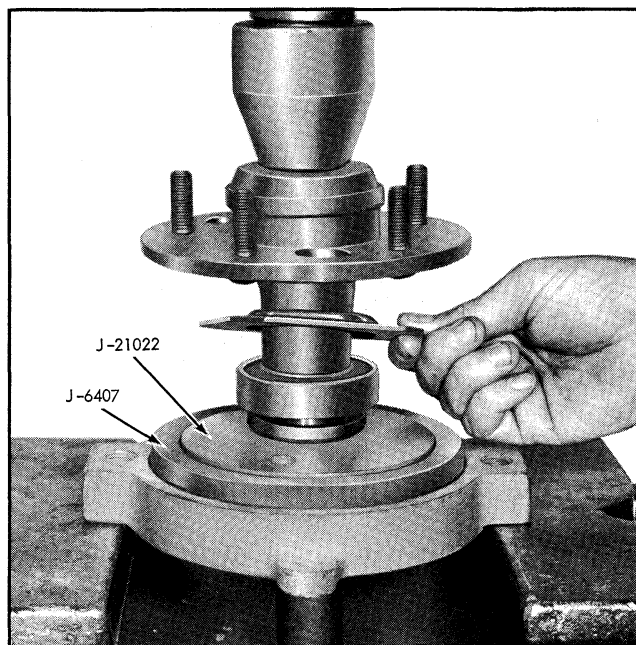

Fig. 4-13 Installing Inner Retainer
3. Press new inner retainer ring against bearing using installer J-21022, Fig. 4-13.